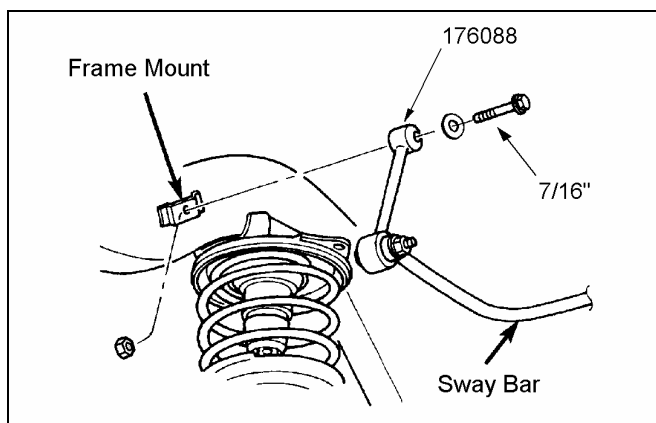

Figure 14
- 4) ☐ Loosely attach the new end link assemblies to the frame brackets and rear sway bar with the hardware from kit 860155. See Figure 14.